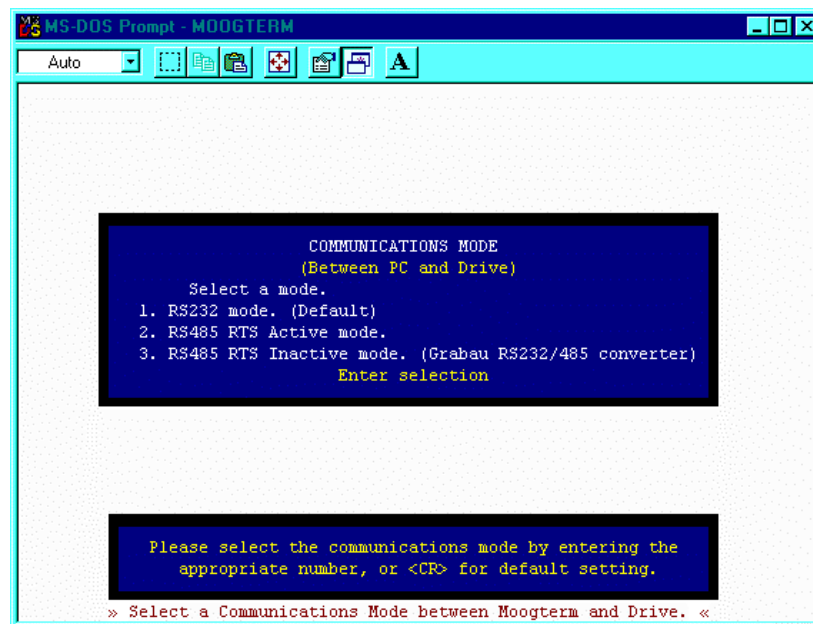

FIGURE 4.49 Communications Mode Screen
- ❑ In the **Communications Mode** screen enter the number corresponding to the RS mode of communication (FIGURE 4.49).